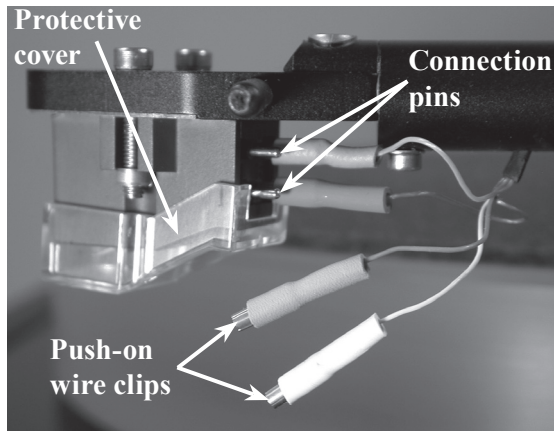

Figure 23
1. Un-install the factory installed Phono Cartridge from the MT5 Tone Arm. First, place the Stylus Guard on the Cartridge. Carefully disconnecting the four push-on wire clips from the phono cartridge rear connection pins, using an appropriate tool. Then remove the mounting screws and nuts using the supplied allen wrench. Place the removed cartridge, spacer plate, screws and nuts in a safe place for possible future use. Refer to figures 23 and 24.
3. Using an appropriate tool, attach the four color coded wire lead connections coming from the front underside of the Tone Arm onto the rear of the new Phono Cartridge, following the instructions supplied with the Cartridge. Refer to figure 23. Below is the Tone Arm Headshell wire color lead identification: